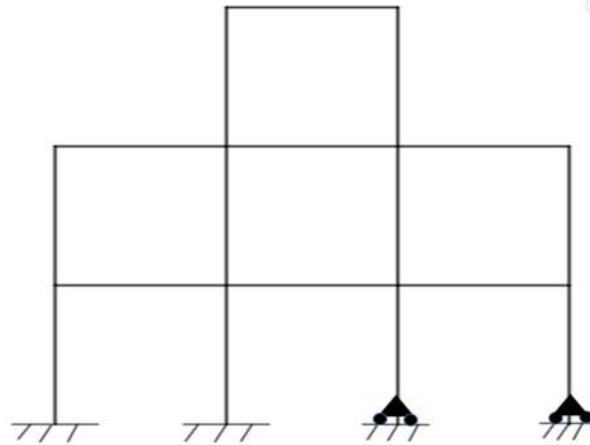

Fig.4
- a) Find static indeterminacy and kinematic indeterminacy of the given structure. See fig.4.